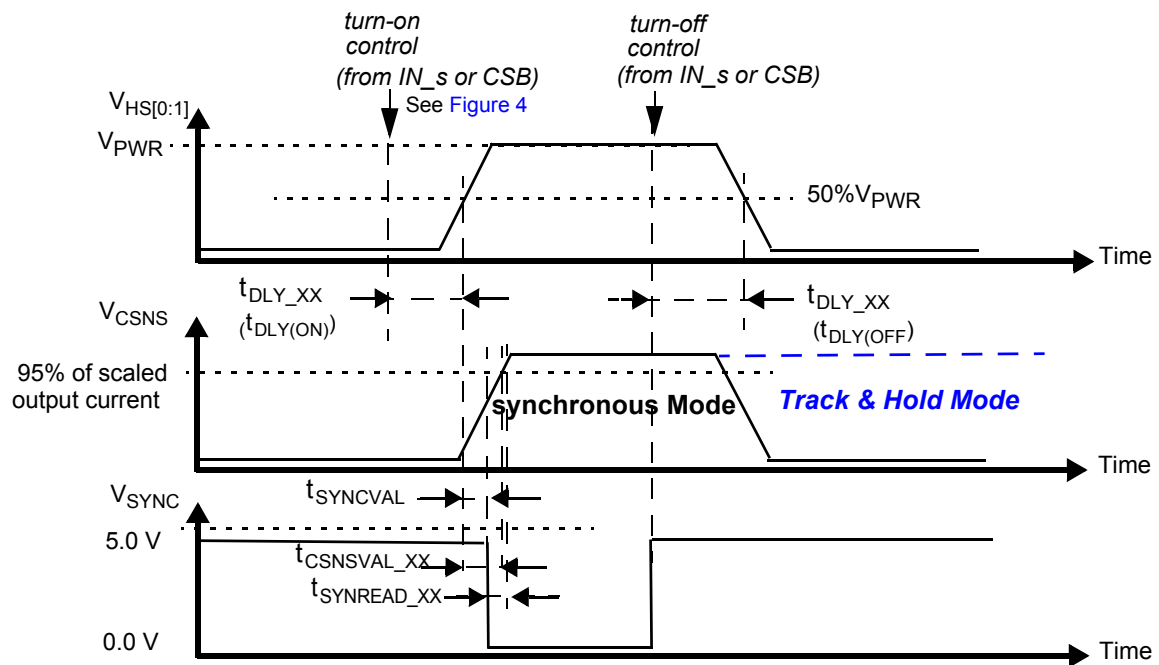

Figure 9. Synchronous & Track-and-Hold Current Sensing Modes: Associated Delay & Settling Times
32. Time required to switch off the channel after detection of overtemperature (OT), overcurrent (OC), SC or UV error (time measured between start of the negative edge on the FSB pin and the falling edge on the output voltage until $V(\text{HS}[0:1]) = 50\%$ of V_{PWR}).
33. Settling time ($= t_{CSNSVAL_XX}$), SYNC output signal delay ($= t_{SYNCVAL_XX}$) and Read-out delay ($= t_{SYNREAD_XX}$) are defined for a stepped load current ($100\text{ mA} < I(\text{LOAD}) < I(\text{OCLX A FOR CSNS_RATIO_S} = 1, \text{ AND } 300\text{ mA} < I(\text{LOAD}) < I(\text{OCLX A}_0 \text{ FOR CSNS_RATIO_S} = 0)$). (see Figure 9 and Output Current Monitoring \(CSNS\))
- Settling time ($= t_{CSNSVAL_XX}$), SYNC output signal delay ($= t_{SYNVAL_XX}$) and Read-out delay ($= t_{SYNREAD_XX}$) are defined for a stepped load current ($100\text{ mA} < I(\text{LOAD}) < IOCLX A$ FOR $CSNS_RATIO_S = 1$, AND $300\text{ mA} < I(\text{LOAD}) < IOCLX A_0$ FOR $CSNS_RATIO_S = 0$). (see Figure 9 and Output Current Monitoring \(CSNS\))
The CS pin allows independent current monitoring of channel 0 or channel 1 up to the steady-state overcurrent threshold. It can also be used to sense the device temperature. The different functions are selected by setting bits CSNS1_en and CSNS0_en to the appropriate value (Table 23). When the CSNS pin is sensed during switch-off in the (optional) track & hold mode (see Figure 9), it outputs the scaled value of the load current as it was just before turn-Off. When several devices share the same pull-down resistor, the CSNS pins of devices the current of which is not monitored must be tri-stated. This is accomplished by setting CSNS0_en = 0 and CSNS1_en = 0 in the GCR register (Table 10). Settling time ($t_{CSNSVAL_XX}$) is defined as the time between the instant at the middle of the output voltage's rising edge ($HS[0:1] = 50\%$ of V_{PWR}), and the instant at which the voltage on the CSNS-pin has settled to $\pm 5.0\%$ of its final value. Anytime an overcurrent window is active, the CSNS pin is disabled (see Overcurrent Detection on Resistive and Inductive Loads). The current and temperature sensing functions are unavailable in Fail-safe mode and in Normal mode when operating without the V_{DD} supply voltage. In order to generate a voltage output, a pull-down resistor is required ($R(CSNS)=1.0\text{ k}\Omega$ typ. and $470 < R(CSNS) < 10\text{ k}\Omega$). When the current sense resistor connected to the CSNS pin is disconnected, the CSNS voltage is clamped to $V_{CL(CSNS)}$. The CSNS pin can source currents up to about 5.6 mA.
To synchronize current sensing with an external process, the SYNC signal can be connected to a digital input of an external MCU. SYNC is asserted logic low when the current sense signal is accurate and ready to be read. The current sense signal on the CSNS pin has the specified accuracy $t_{SYNREAD_XX}$ seconds after the falling edge on the SYNC pin (Figure 9) and remains valid until a rising edge is generated. The rising edge that is generated by the SYNC pin at the turn-OFF instant (internal or external) may also be used to implement synchronization with the external MCU. Parameter t_{SYNVAL_XX} is defined as the time between the instant at the middle of the output-voltage rising edge ($HS[0:1] = 50\%$ of $VPWR$), and the instant at which the voltage on the SYNC-pin drops below 0.4 V (V_{SOL}). The SYNC pins of different devices can be connected together to save μ -controller input channels. However, in this configuration, the CSNS function of only one device should be active at a time. Otherwise, the MCU does not determine the origin of the SYNC signal. The SYNC pin is open drain and requires an external pull-up resistor to VDD.